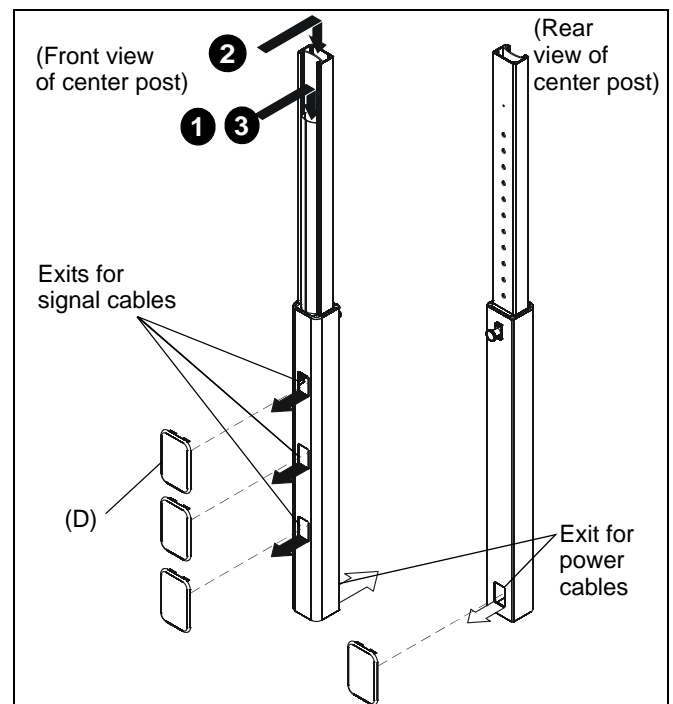

Figure 10
1. Signal cables can be run down the front flap of the center post and out the front of the post at any of the openings. (See Figure 10)
2. The display power cord can be run through the top and down through the post to exit out the back. (See Figure 10)
3. Any accessory power cords can be run through the front and down through the post to exit out the back. (See Figure 10)
4. Install the snap-on covers (D) to any opening that is not being used. (See Figure 10)